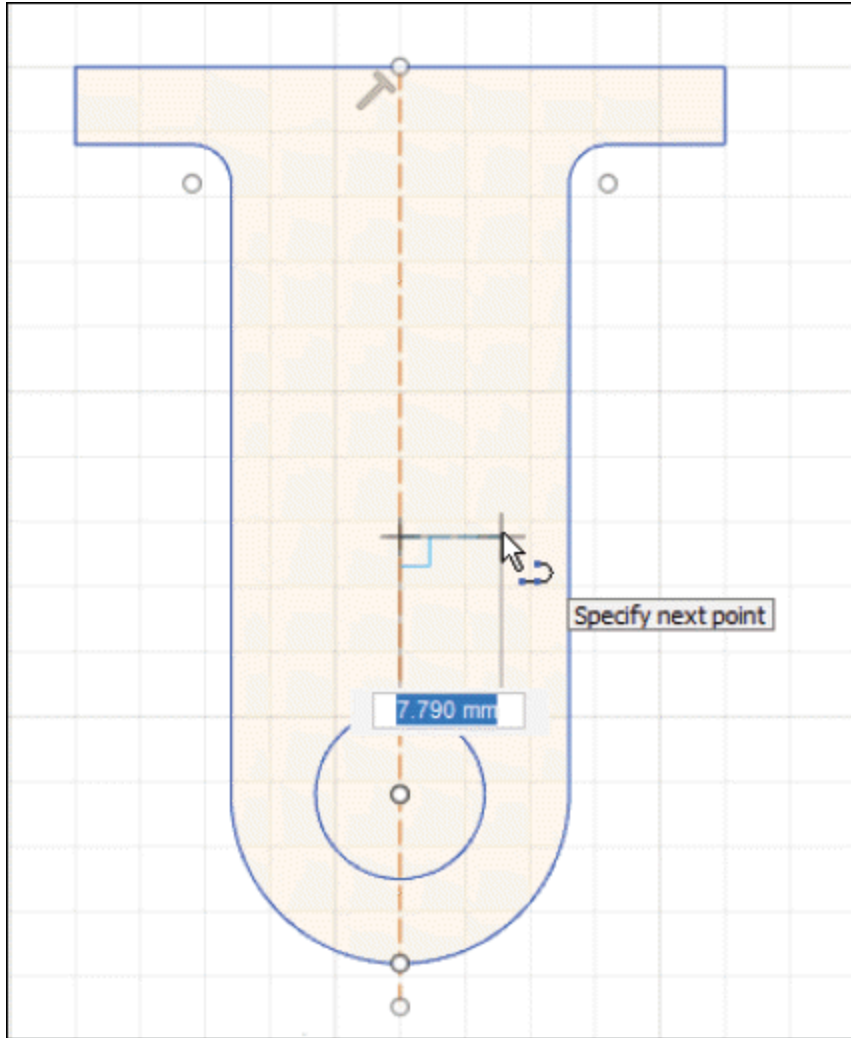

Figure-117. Point selected on centerline
- Click on the **Line** tool from **CREATE** drop-down and click anywhere on the center line (except mid point and end points) to specify the start point of the line; refer to Figure-117.